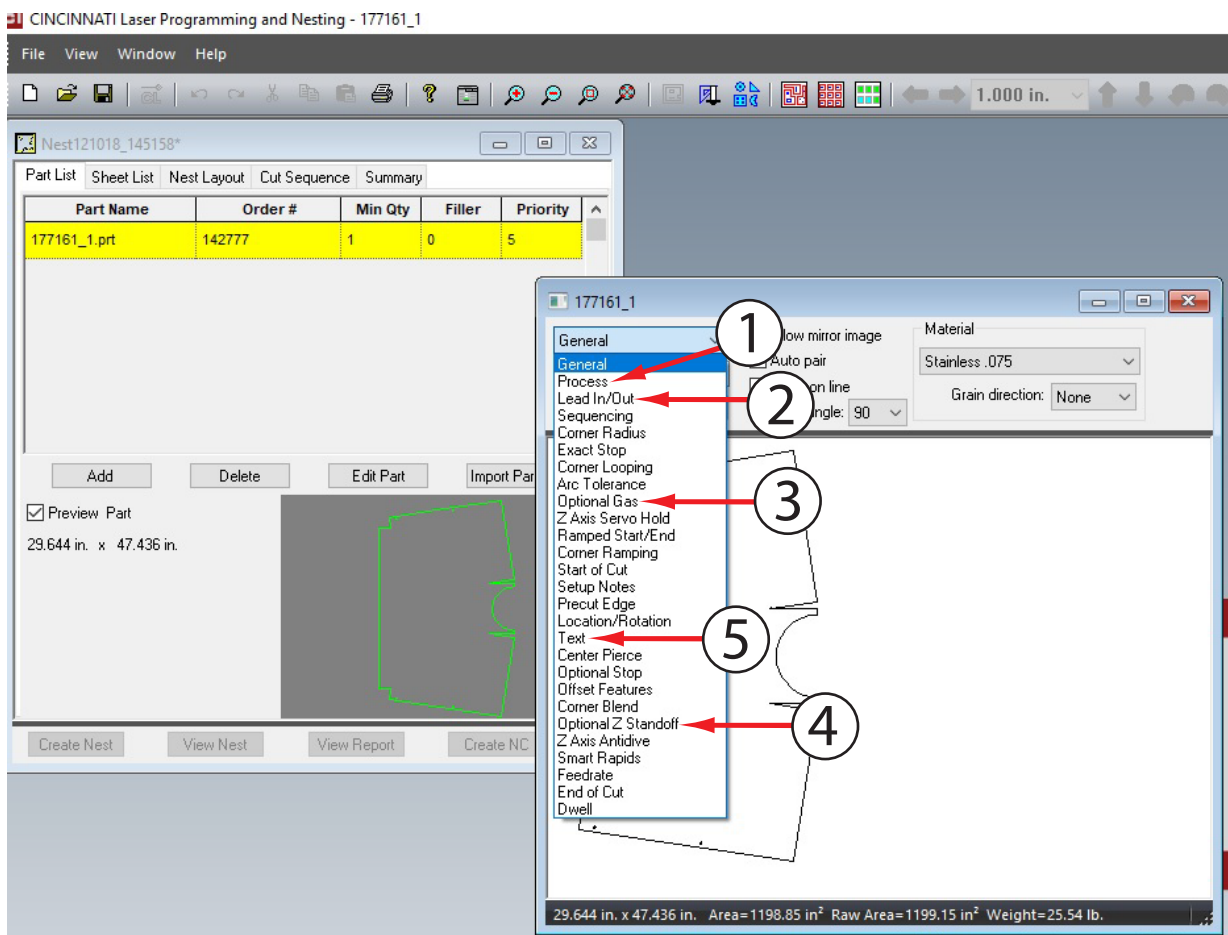
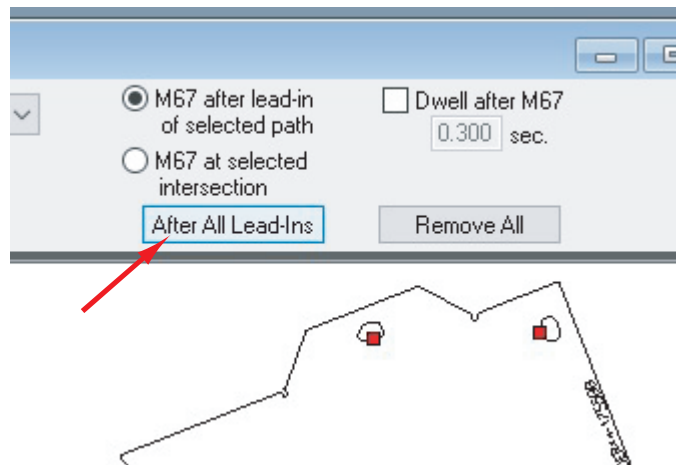
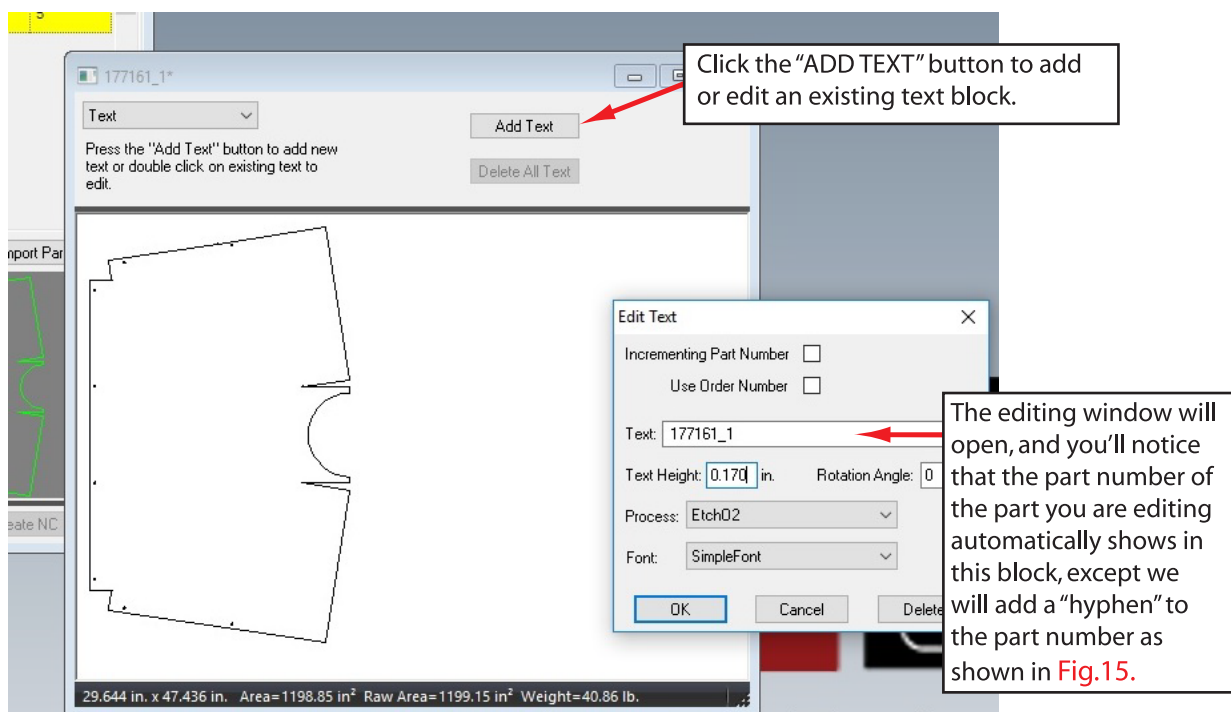

Fig.12
Fig.13
Fig.14
- 15) After you set your Processes to cut and Etch, now you will do a quick check through of a few more Process settings to make sure they show up before you move onto the next step. DON'T skip these few Process checks as they will cause the Laser problems during cutting. As shown in Fig.12 below, you can see the order in which you check the next few items. Check these in this order THE SAME WAY EVERY TIME so it becomes habit, and all your nests will have the same results before moving on.
- 16) Since you've already checked the "Processes," next, find the "LEAD In/Out" selection, NO#2 (FIG.12), and it will highlight all the Lead-in pierce points, the path and order in which they will be cut (shown in blue) on that part. Make sure they are leading in on the correct side of the hole or outer perimeter of the part itself. If not, then change to suit the correct lead-in side or direction.
- 17) Next, check "Optional Gas," NO#3 (Fig.12). You will now see that every place a Lead-In is located, you will see a RED DOT indicating a lead in and that "Optional Gas" will be applied to that lead-in. If no Red Dots are seen, then select the "AFTER ALL LEAD-INS" button shown below in Fig.13, and it will apply the gas to all lead-ins on that part.
- 18) Next, check "Optional Z Standoff," NO#4 (FIG.12). The same thing should occur for this function as fit did or Optional Gas. You should see Red Dots at every lead-in location as well. If not, then again select the "After All Lead-Ins" button in that window to apply the Standoff function to all lead-ins. Do NOT skip 3 & 4 as they are essential for proper cutting!
- 19) The next thing to check is the "TEXT" option, or NO#5 (FIG.12). This is where you will add or edit the text that is needed so the the MO# and part number will be etched onto the parts, which HAS to be done for correct placement to the correct job. You then will be able to confirm the correct process (black and red or brown and lime green) for the correct cutting and etching gases mentioned previously. So pull down the menu and select the "TEXT" selection to open the text editing window and click on the "ADD TEXT" button which will open up the selection window as shown in Fig.14 below.